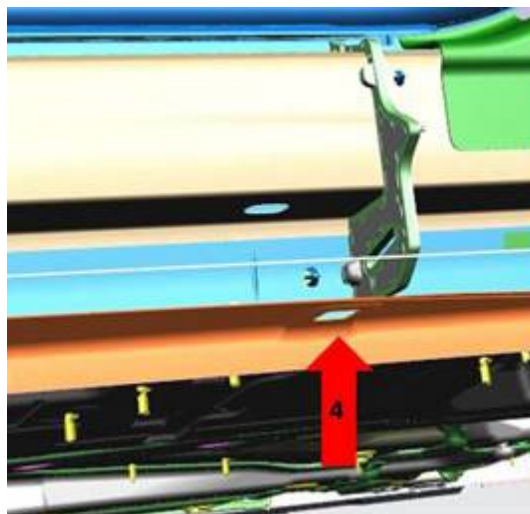

Figure 5. Hole through which the sound absorber will be accessed.
7. Figure 5 shows a closer view of the sound absorber to be modified in the cut-away image.